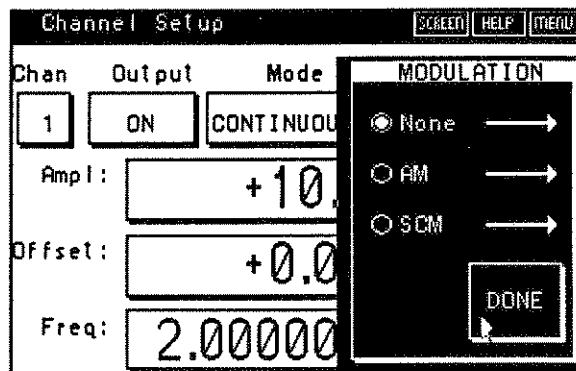

Figure 4-14. Modulation Menu
The Model 295 allows you to select two forms of modulation: Amplitude Modulation (AM) and Suppressed Carrier Modulation (SCM). Figure 4-14 illustrates the modulation menu. After selecting the Modulation type, press the DONE button to remove the MODULATION dialog.